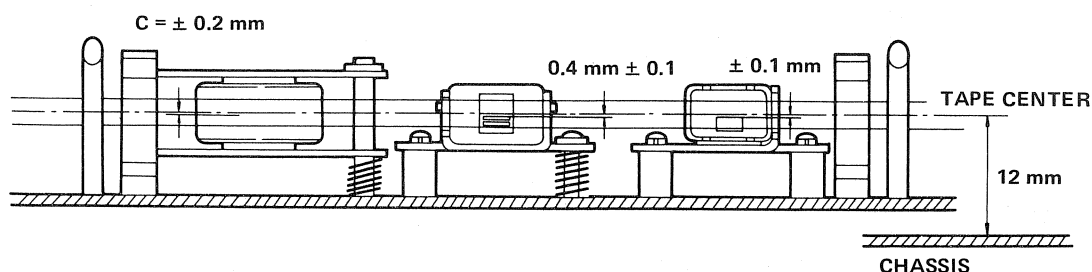

Fig. 18
8. Fig. 18 shows relations between tape and head height.